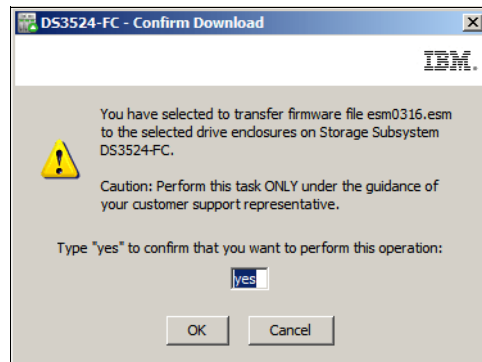

Figure 14-50 Confirm Download
3. The Confirm Download window opens. Read the information, confirm it by entering yes, and click **OK** to start the update (Figure 14-50).